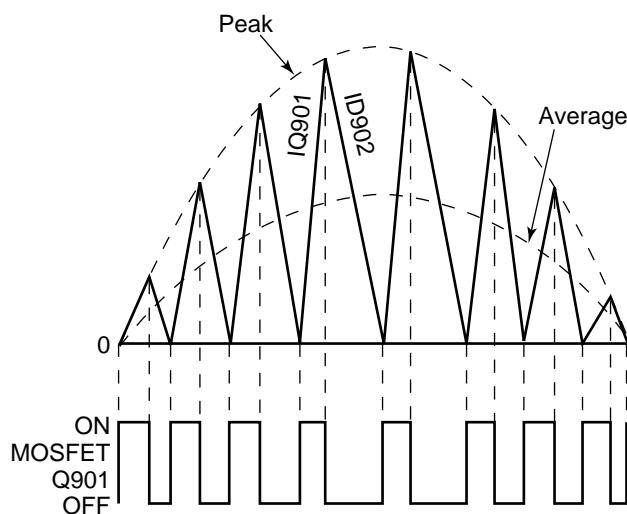
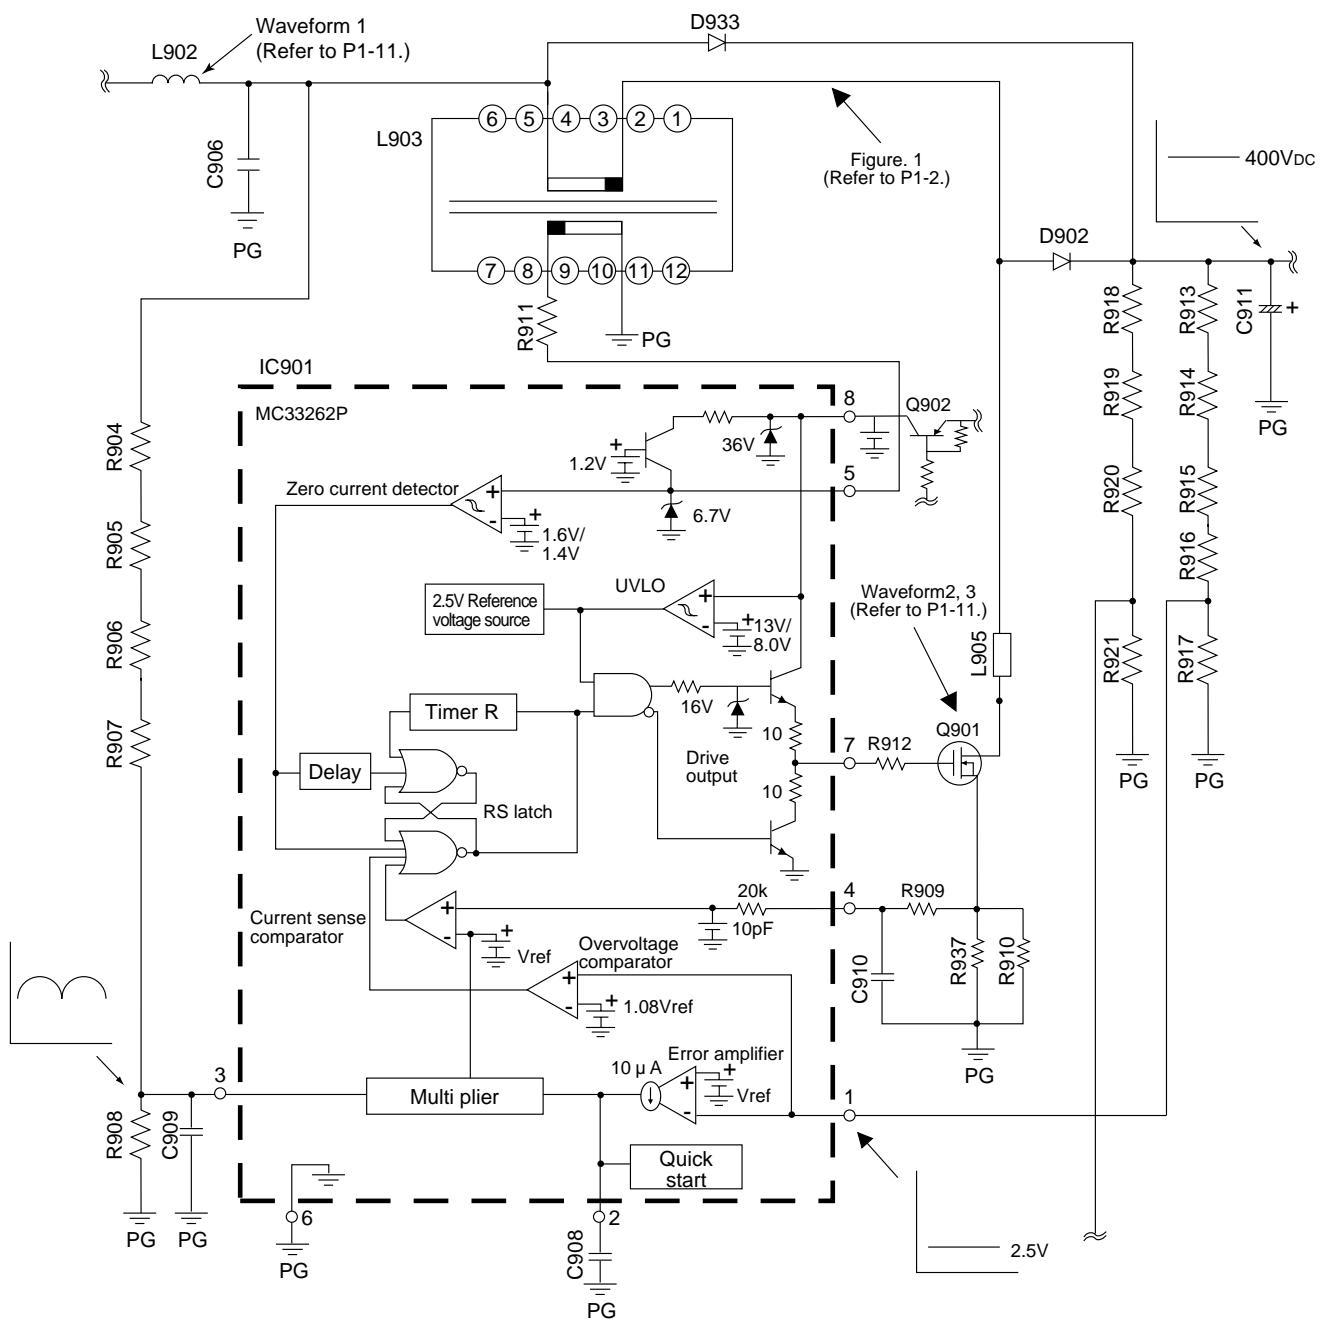

Figure 1. L903 coil current
Figure 2. High harmonic waveform circuit
- (1) The pulsating waveform rectified in the full wave mode by D901 is switched throughout the full cycle by the frequency of several tens kHz or more. Through this, the input current waveform becomes an average of the switching currents of the partial cycles, thus becoming the sine waveform in the macro. (See Fig.1)
- (2) For the AC input voltage, the AC input current of the sine wave type in the same phase flows to achieve the power circuit of improved power factor and reduced higher harmonic wave component.
- (3) L903 is the choke coil, Q901 is MOS FET, D902 is the rectifying diode, C911 is the block capacitor, and IC901 is the power factor improved controller. The power factor improved controller uses MC33262P of Motorola. (See Fig. 2)
- (4) After the sub power circuit operates, P-SUS signal becomes HI when +5V voltage is supplied to the MPU. Then, Q902 is turned ON, the voltage of approx. +18V is supplied to pin8 (VCC terminal) of IC901 through D929 from pin2 of T902, and the following operation is started.
- (5) The pulsating voltage waveform rectified in the full wave mode by D901 is divided with R904, R905, R906, R907 and R908 (100VAC : 1.1Vp-p and 240VAC: 2.9Vp-p), and is input to pin3 of IC901 (Multiplier input). Moreover, the output (+side of C911: 400VDC) of the higher harmonic circuit is divided with R913, R914, R915, R916 and R917 (2.5VDC), and is input to pin1 of IC901 (error amplifier input).
- (6) The output of the error amplifier and the divided waveform of the pulsating voltage input to pin3 of IC901 sets the threshold voltage of the current sense comparator to control the Q901 flowing current from zero to the peak line of the AC input voltage in the sine wave pattern.
- (7) When Q901 is turned ON, the drain current of Q901 flows to R910 and R937 to drop the voltage, and the voltage generated by the voltage drop is input to pin4 (current sense input) of IC901. When the voltage reaches the threshold voltage of the current sense comparator, Q901 is turned OFF.
- (8) When Q901 is turned OFF, the accumulated energy of L903 starts to be supplied to the load through D902.
- (9) As the accumulated energy of L903 drops, the auxiliary coil voltage (pin8 of L903) also drops. When it reaches the threshold voltage of \*zero current detector, Q901 will be turned ON again.